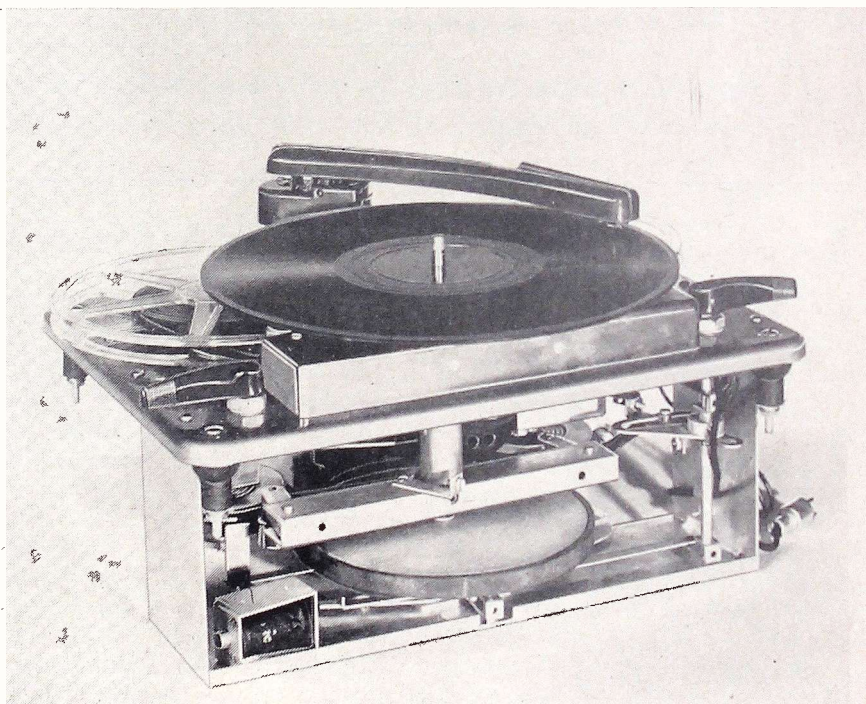

Fig. 1. Open view of Tape Recorder
**B**ECAUSE of the increasing interest in tape recording machines; because that growing interest is justified; because tape recorders are capable of high quality performance, this article is written to better acquaint dealers with a product they may be handling any day now. Of the several tape recorders available the Twin-Trax offering was chosen for discussion since it seems to include most of the features pertaining to contemporary tape recorders. In fact one of their models has even provided for cross-over recording from disc to tape through the inclusion of a disc turntable affixed to the central capstan of its mechanism. This is clearly shown in *Fig. 1*.